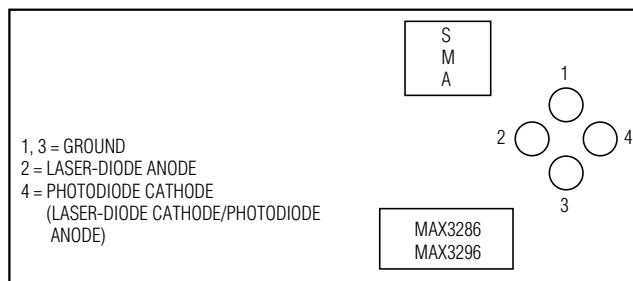

Figure 1. Optical Connection Diagram
- 2) Make sure nothing is installed in the laser socket (Figure 1).
- 9) Place jumpers across JU2 (EN), JU3 (\overline{EN}), and JU4 (PORDLY).
- 10) If you intend to power the board from a +5V supply, place a jumper across JU1 (LV). **Do not apply power yet.**
- 4) Connect a laser to the board (Figure 1).
- 10) Place jumpers across JU2 (EN), JU3 (\overline{EN}), and JU4 (PORDLY).
- 11) If you intend to power the board from a +5V supply, place a jumper across JU1 (LV). **Do not apply power yet.**